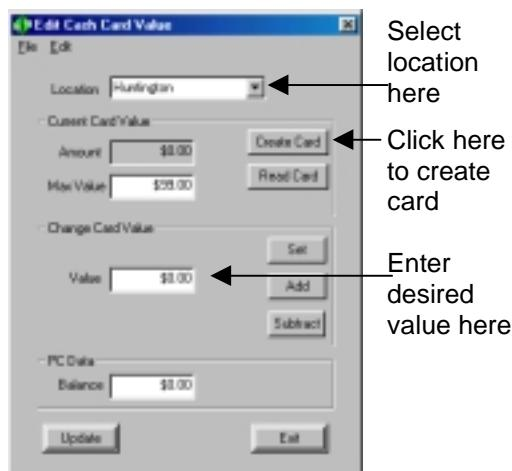

Figure 12.4 Creating a Cash Card
2. Select a Location ID from the Location pull-down menu (Figure 12.4).
3. Enter value if desired (Figure 12.4).
5. Click the Create Card button (Figure 12.4).